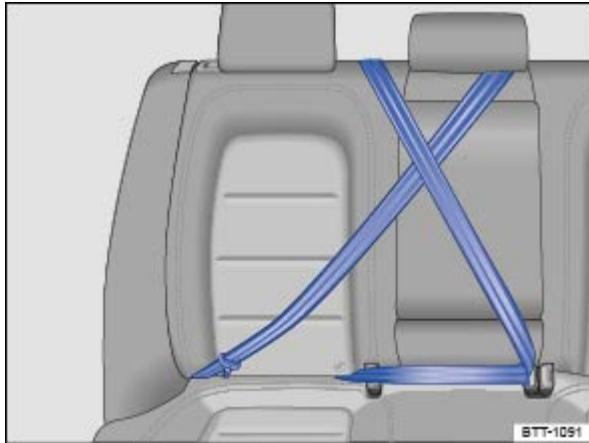

Fig. 37 Keep unused safety belts away from children in child restraints.
You must take special precautions to prevent a child from playing with an unused safety belt and becoming entangled with it ⇒ Fig. 37. Always route the center safety belt and the unused safety belt for the seating position where the child restraint is being installed securely out of the child's reach.
- Route the safety belt around the head restraint for the center seating position ⇒ Fig. 37.
- Buckle the safety belt ⇒ Fig. 37.
⇒ Fig. 37.
curely out of the child's reach. Securing the safety belts will help prevent a child from playing with an unused safety belt and becoming entangled with it ⇒ Using a child restraint on the rear seat, ⇒ Fig. 37.